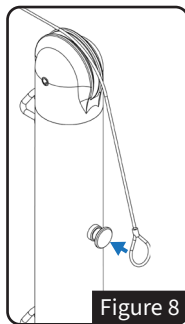

Figure 8
Place one end of the top cable of the **Net (Part H)** over the pulley on the **Hook Post (C)** and attach the cable loop to the hook on the back of the post. See *Figure 8*.